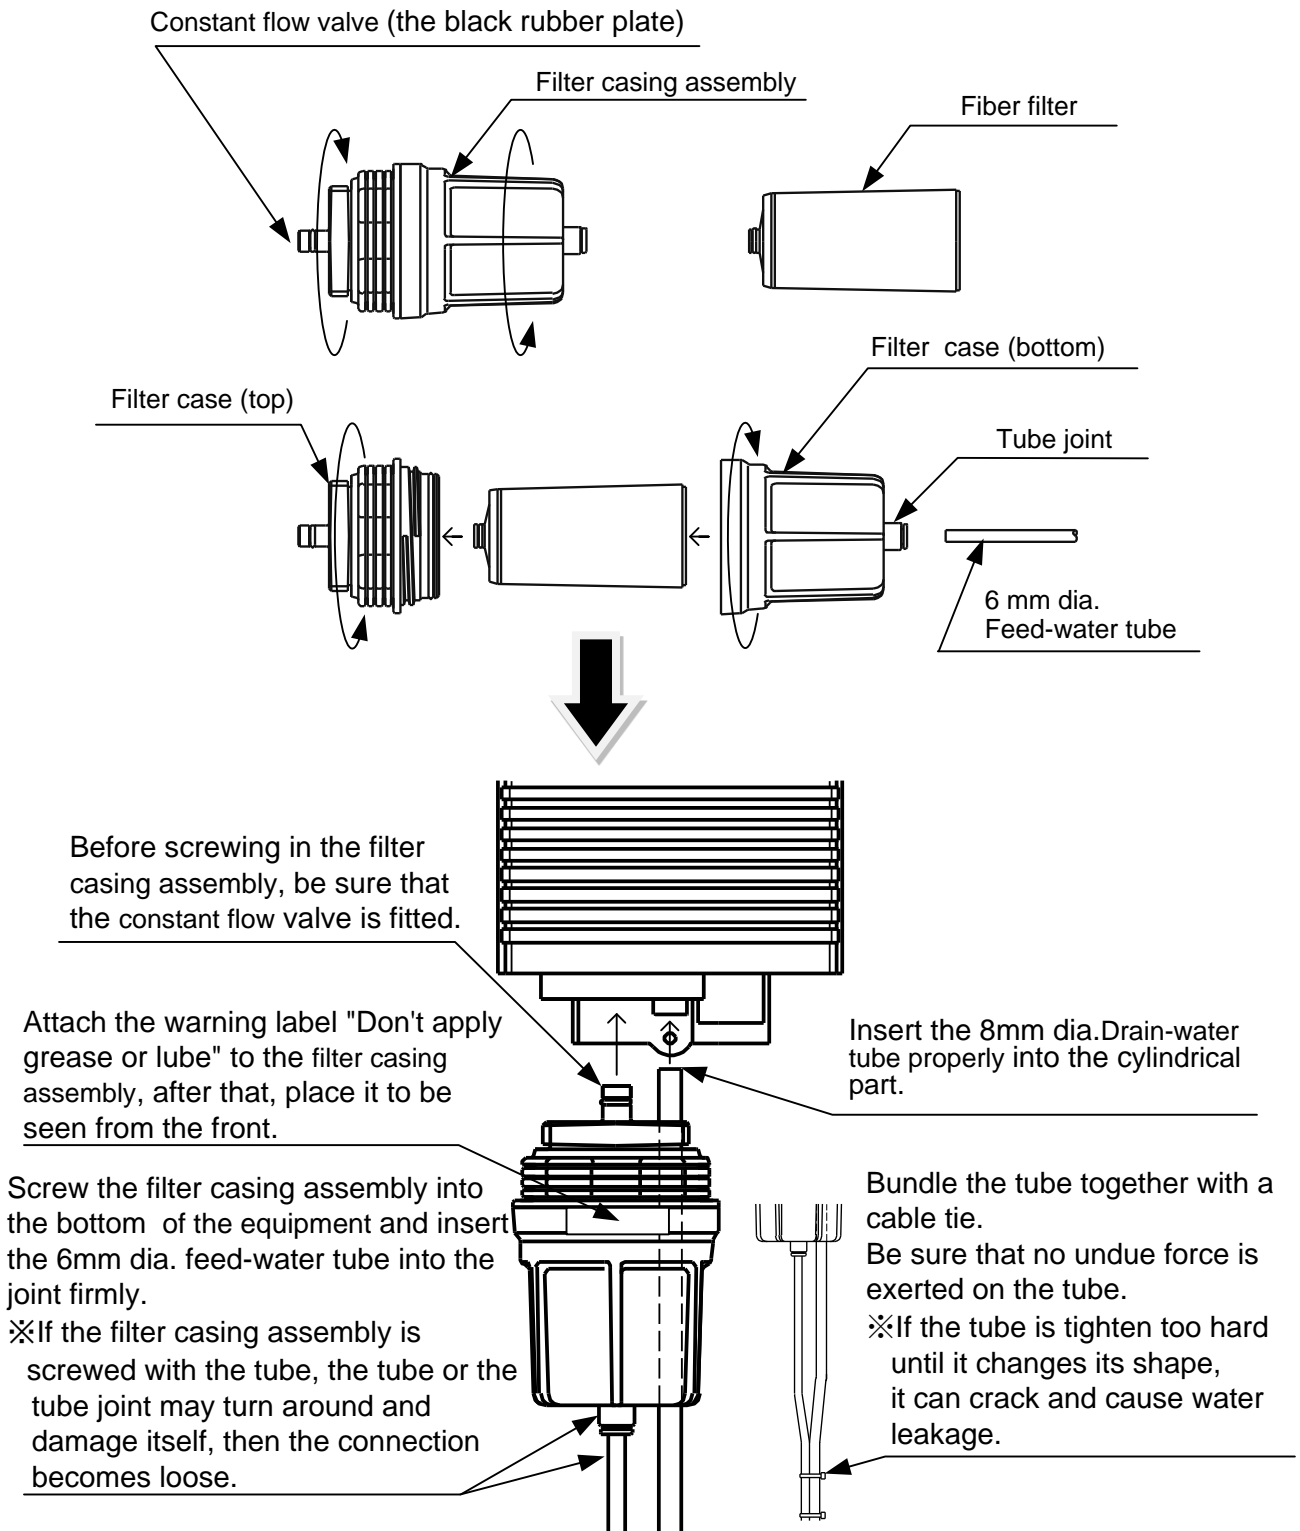

Fig. 3-2 Filter casing assembly installation
- [3] Assemble the filter casing assembly according to the following procedure. (see Fig.3-2)
- (1) Take the filter casing assembly out of the bag. Fit the constant flow valve into the end of bottom tip of it.
- (2) The filter casing assembly comes apart into two sections. To take them apart, rotate the top and bottom sections in a counterclockwise direction.
- (3) Remove the fiber filter from the box (and bag). Insert the tip end of the fiber filter into the center of the filter case (top). Then firmly tighten the filter case (top) and filter case (bottom) back together.